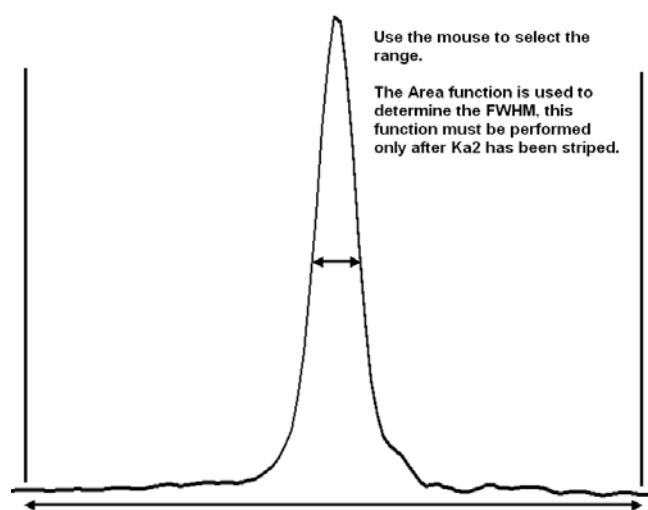

Figure 8.3 - Complete measured range
3. Use the Area function in the EVA toolbox to create an area measurement using the complete measured range (see Figure 8.3). Use the mouse to select the range.